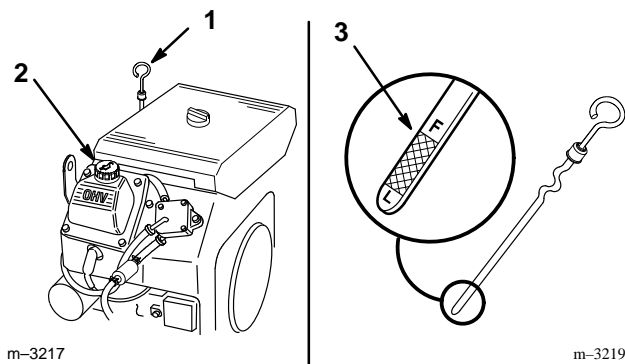

Figure 27
2. Clean around the oil dipstick (Fig. 27) so dirt cannot fall into the filler hole and damage the engine.
3. Unscrew the oil dipstick and wipe the metal end clean (Fig. 27).
4. Slide the oil dipstick fully into the filler tube, but do not thread onto tube (Fig. 27). Pull the dipstick out and look at the metal end. If oil level is low, slowly pour only enough oil into the filler tube to raise the level to the “FULL” mark.
5. Slowly pour approximately 80% of the specified amount of oil specified, page 36, into the filler tube (Fig. 27). Now check the oil level; refer to Checking Oil Level, page 37. Slowly add additional oil to bring to “FULL” mark on dipstick.